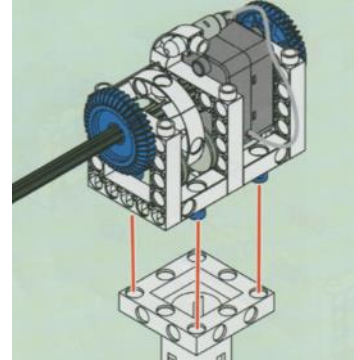

Figure 7: Turbine Assembly
**Use Figure 7 for steps 17-19.**